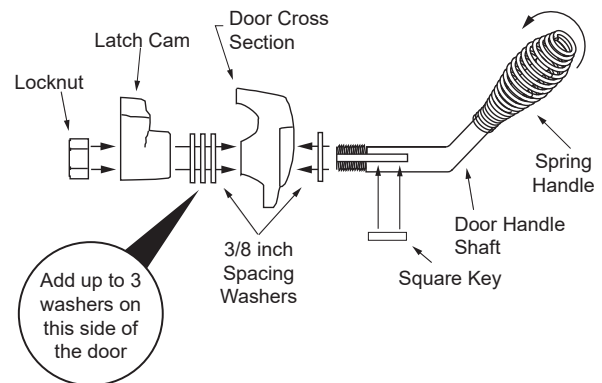

Figure 24.3
3. Add up to three washer as shown in **Figure 24.3** on the inside of the door.
7. Install handle turning in a counter-clockwise motion to desired location on door handle rod (**Figure 24.3**).